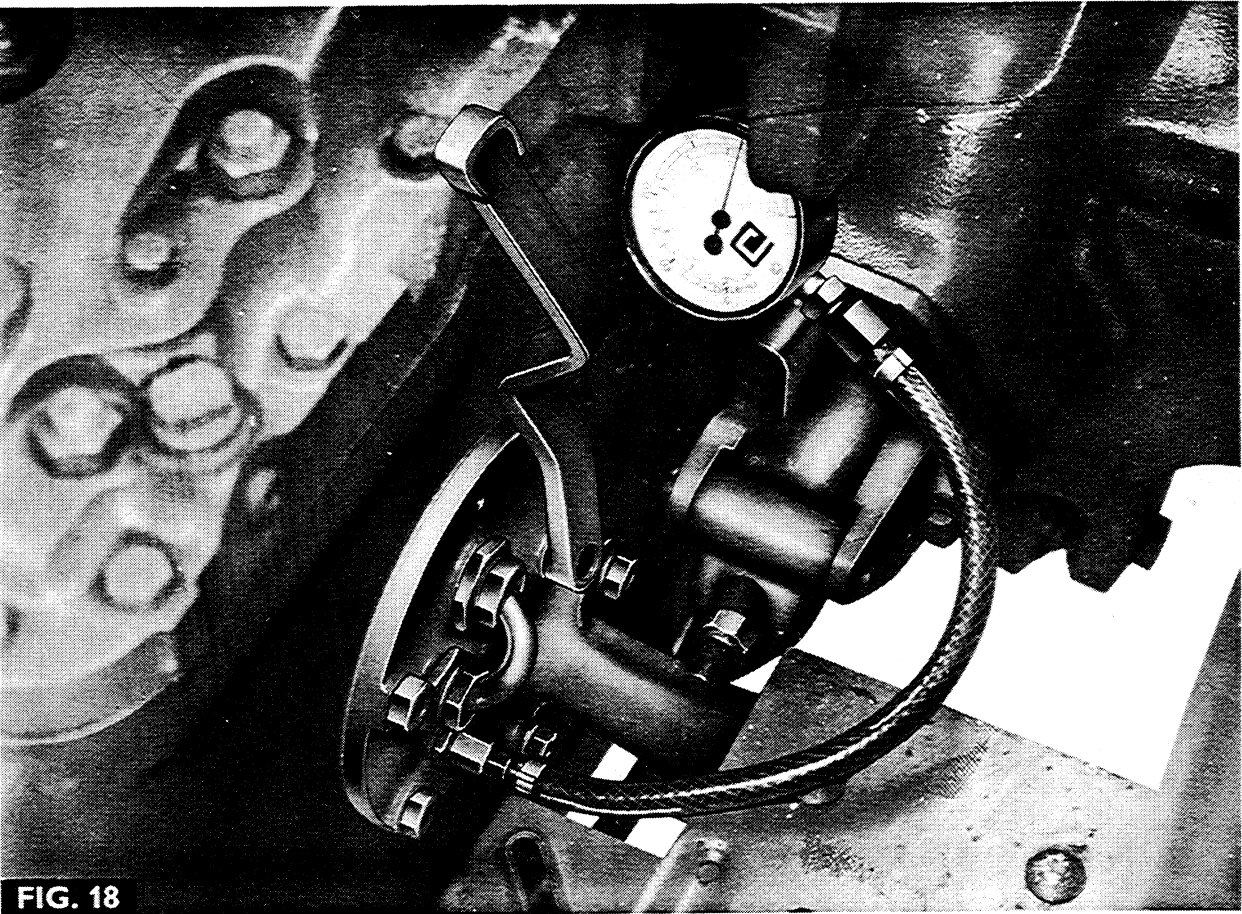

FIG. 18
1. Fig. 18. Remove the plug on the side cover and fit the adapter MF 810-6 and the MF 810 Gauge as shown.